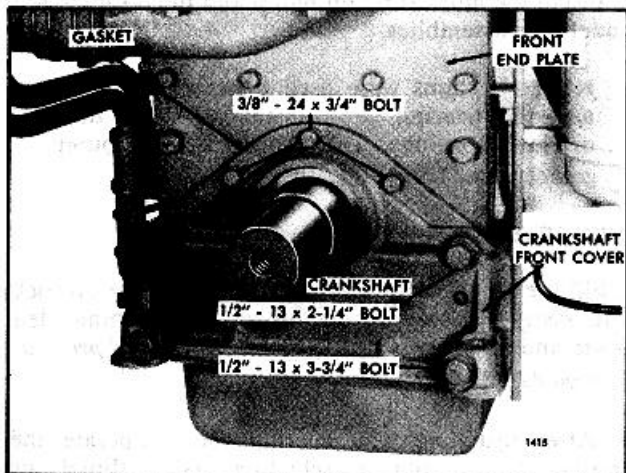

Fig. 1. Crankshaft Front Cover Mounting (Vibration Damper Removed)
4. Remove the cover attaching bolts and washers (Fig. 1).